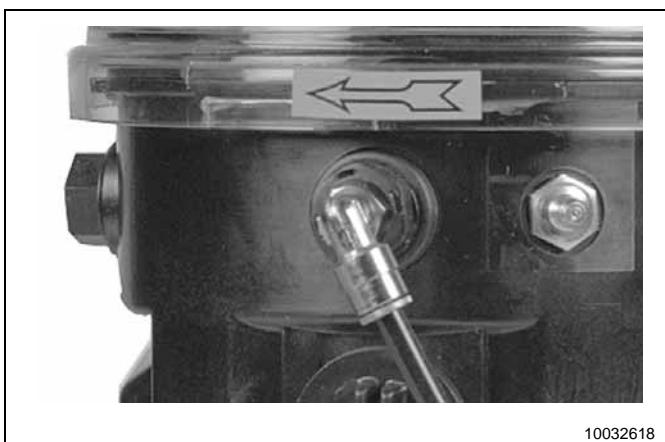

Fig. 19 Return line connection
- The lubricant quantities which cannot be dispensed by the metering device must be returned to the pump via the return line connection (Fig. 19).